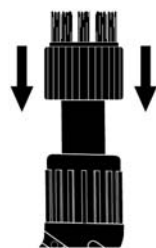

FIGURE 5
2. Press Utility Brush as far on to Steam Jet Nozzle as possible to ensure that it is properly sealed, to help prevent any steam leakage (FIGURE 5).